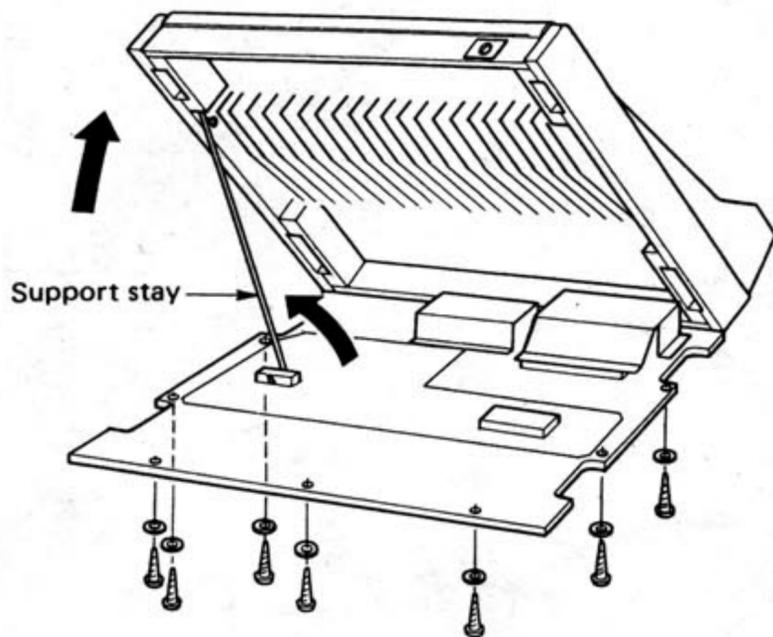

Fig. 1
- 1) Remove the 7 screws from the bottom plate, lift the control panel, and secure it with the support stay as shown in Fig. 1 (making sure that the stay is firmly locked into position).